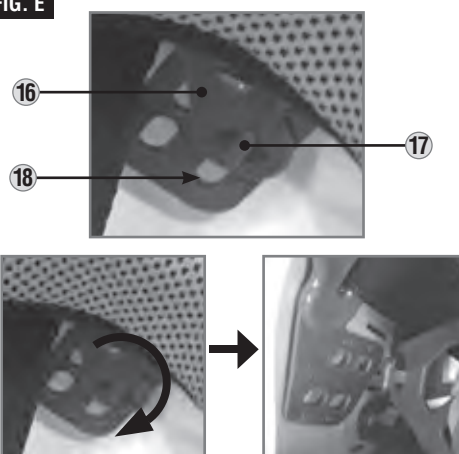

FIG. F1
CHIN STRAP ADJUSTMENT / REMOVAL (FIG. F1, F2, F3)
STEP 2: Adjust both side "V" brackets up or down for final adjustment. Ensure both sides of the "V" straps are even, as shown in FIG. F1.